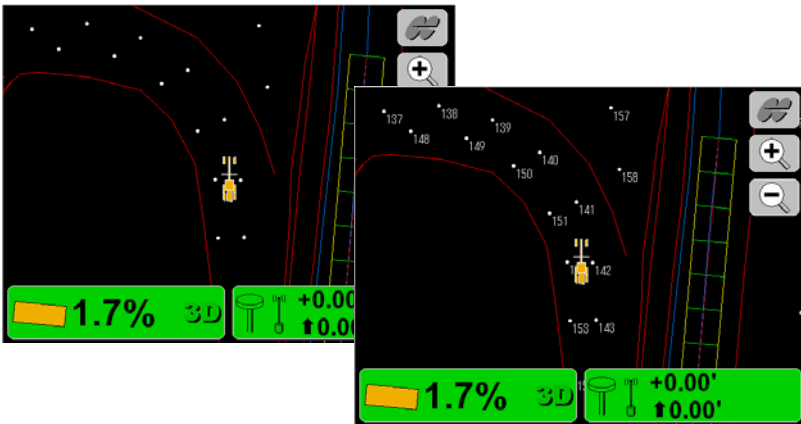

Figure 10-29. Topo Points on Main Screen
2. To display points and/or point numbers during a topographic survey, select the corresponding check box and press **Ok** (Figure 10-29).